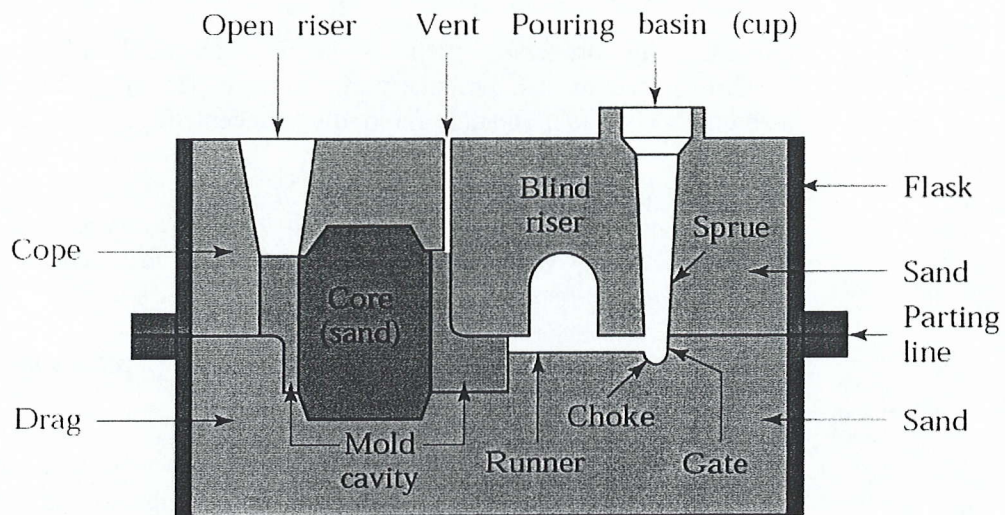

Figure 6/Gambarajah 6
4. A schematic illustration of a sand mold is shown in **Figure 6**.